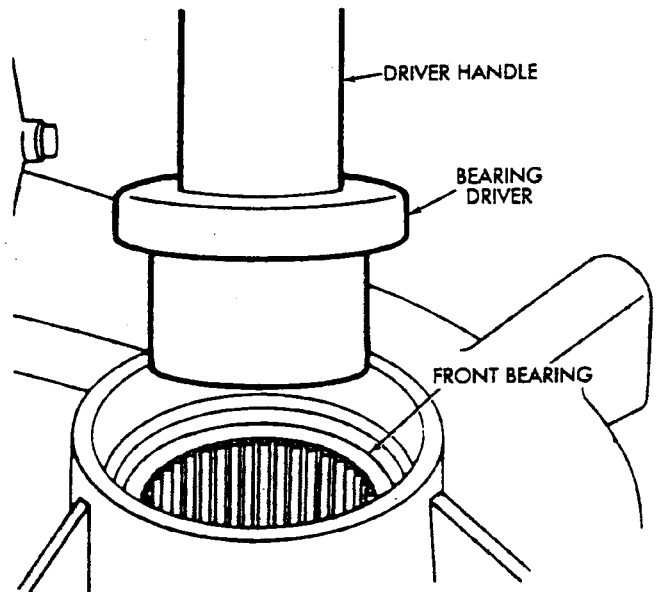

Fig. 4-28 Removing Front Output Shaft Front Bearing
6. Remove the shaft front bearing from the case with bearing driver tools (Fig. 4-28).